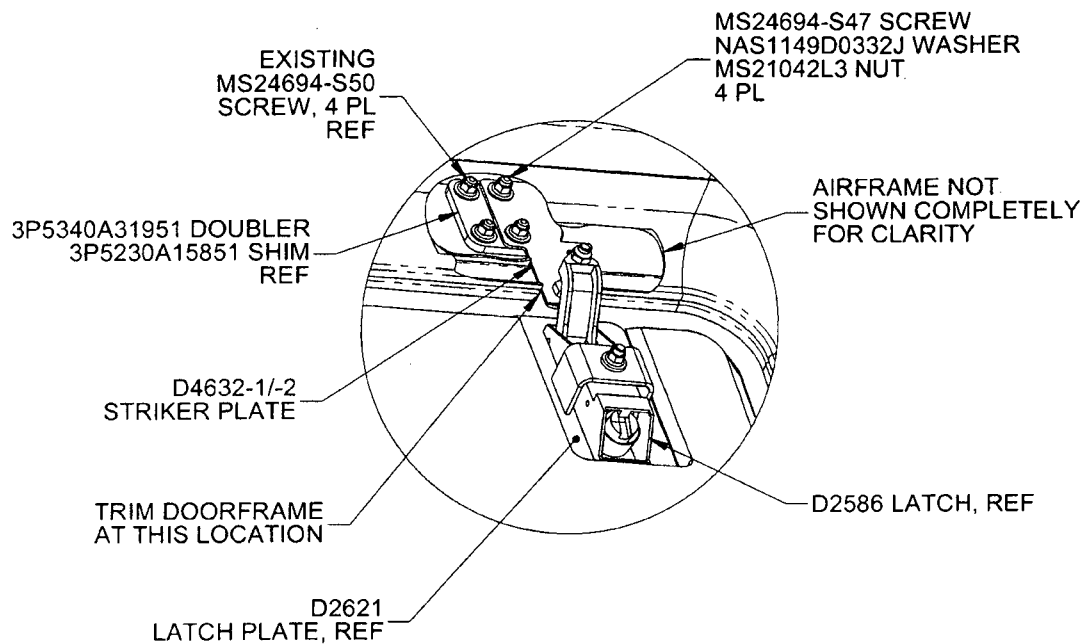

FIGURE 2 - D4632-1/-2 STRIKER PLATE INSTALLATION
- 3.2.2.10 Install the D4074-7 Striker Plate using 4 x CR3523-4 rivet as shown in Figure 5c Section G-G. On aircraft equipped with 3P5230A01033 (LH) and 3P5230A01133 (RH) Cargo Door, trim Doorframe Channel as shown in Figure 2 of this DSI to allow space for alternate D4632-1 (LH) and D4632-2 (RH) striker plates. Install alternate D4632-1/-2 striker plate at the aft airframe hinge bracket location (see Figure 2 of this DSI). Transfer drill 4 x holes from 3P5340A31951 doubler to striker plate, and install using MS24694-S47 screw, NAS1149D0332J washer and MS21042L3 nut in 4 places.
- 3.2.2.10 Install the D4074-7 Striker Plate using 4 x CR3523-4 rivet as shown in Figure 5c Section G-G. On aircraft equipped with 3P5230A01033 (LH) and 3P5230A01133 (RH) Cargo Door, trim Doorframe Channel as shown in Figure 2 of this DSI to allow space for alternate D4632-1 (LH) and D4632-2 (RH) striker plates. Install alternate D4632-1/2 striker plate at the aft airframe hinge bracket location (see Figure 2 of this DSI). Transfer drill 4 x holes from 3P5340A31951 doubler to striker plate, and install using MS24694-S47 screw, NAS1149D0332J washer and MS21042L3 nut in 4 places.